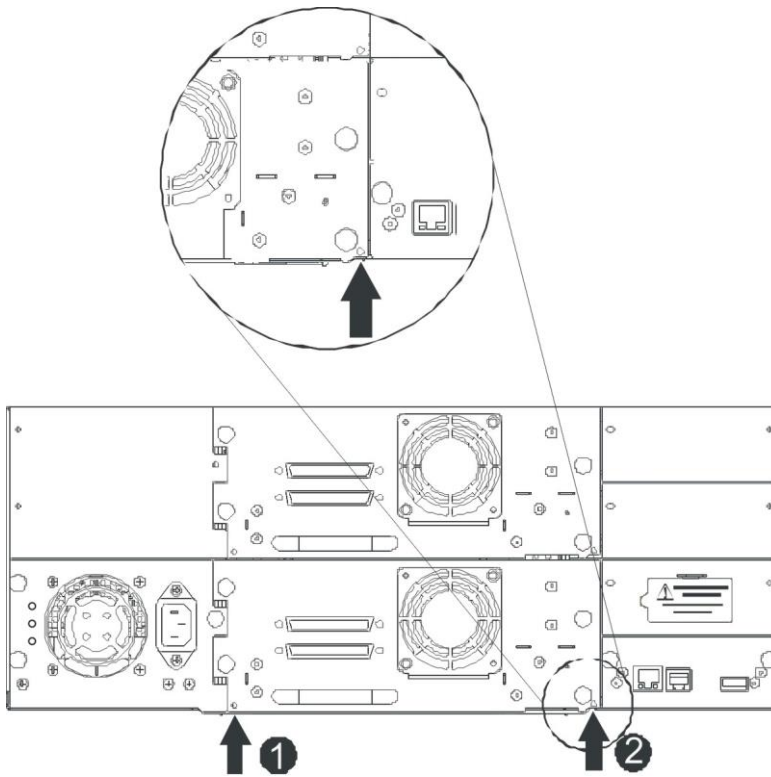

Figure 57 Access holes for the left and right magazine
2. Find the access holes for the right and left magazines (see Figure 57).